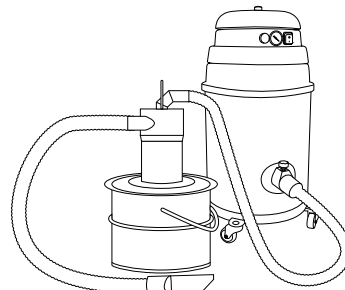

Fig. 9.2 Dedicated Sinterit solutions for cleaning the printer.
3. For cleaning the printer Sinterit recommends dedicated solutions: the Multi PHS (Powder Handling Station) or ATEX/Intertek Vacuum Cleaner with Separator (fig. 9.2).